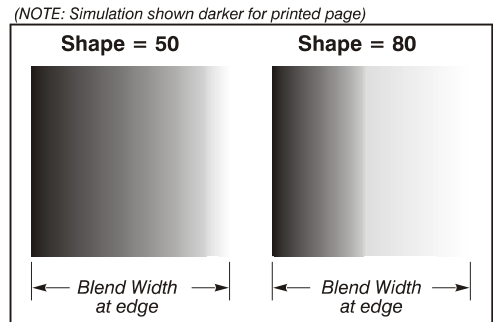

Figure 3. 35. “Shape” Examples
- **Blend Shape** determines the rate of roll-off across the blend width, i.e. how quickly the white levels across the blend change from light and dark. Increasing the *Blend Shape* setting accelerates the rate of change at both extremes so that *less* of the region appears mid-gray (see Figure 3. 35). Decreasing the *Blend Shape* setting slows the rate of change so that *more* of the region appears mid-gray. For most applications, this subtle control is best left close to 50.